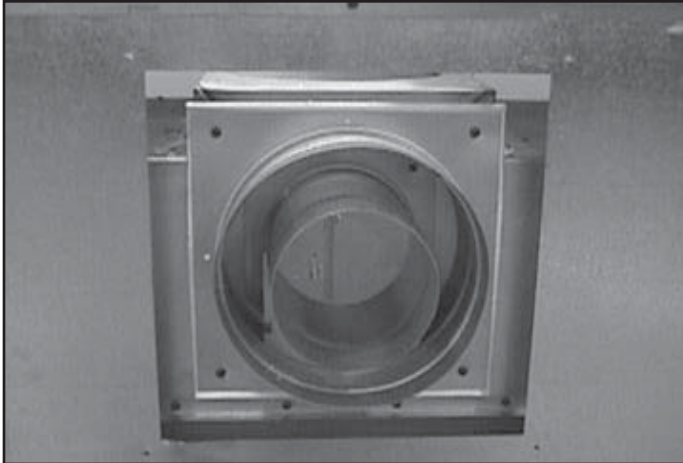

Figure 9.11 Place Outer Collar on Rear of Appliance
- Place outer collar on rear of appliance and replace four screws to hold collar in place. See Figure 9.11. Make sure insulation is attached to the collar base!